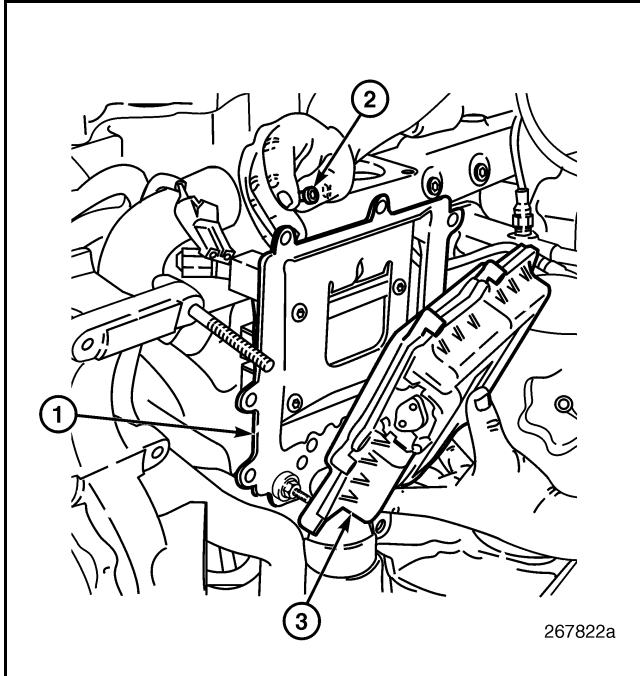

Figure 131 — EECU Removal (ASET™ AC Engine)
- Carefully remove the EECU from the cooling plate (Figure 131).